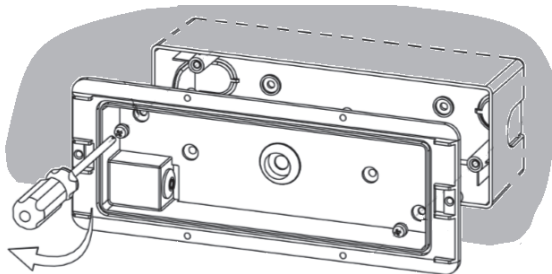

Fig. 4
- Secure the luminaire to the backbox using the M4 screws and rubber washers provided (see Fig. 4)